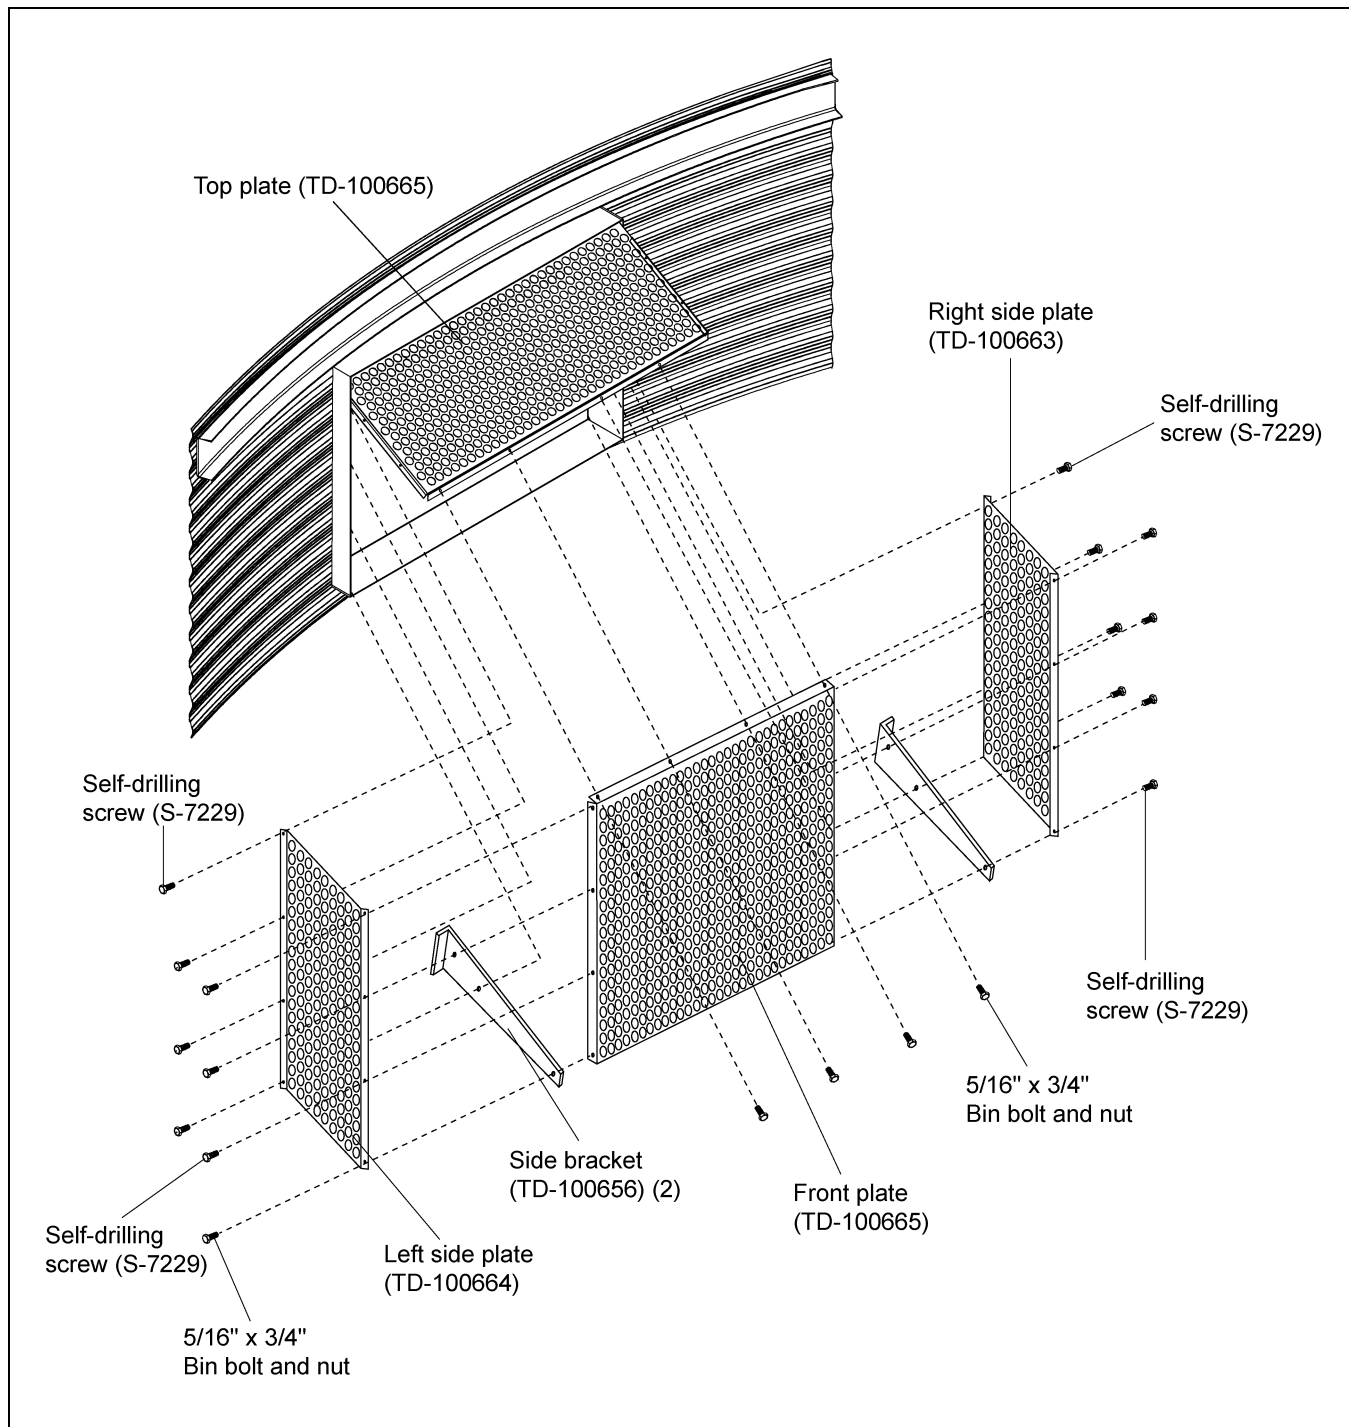

Figure 9N
Position the side plates on each side with the angle outward and fasten in place using six (6) 1/4" x 1" self-drilling screws. (See Figure 9N.)